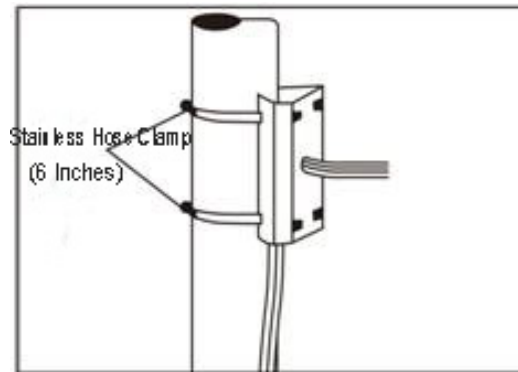

Fig 9
a. As shown in Fig 9, use the stainless hose clamps to fix the pole mounted attachment with all cable through it on the pole structure.